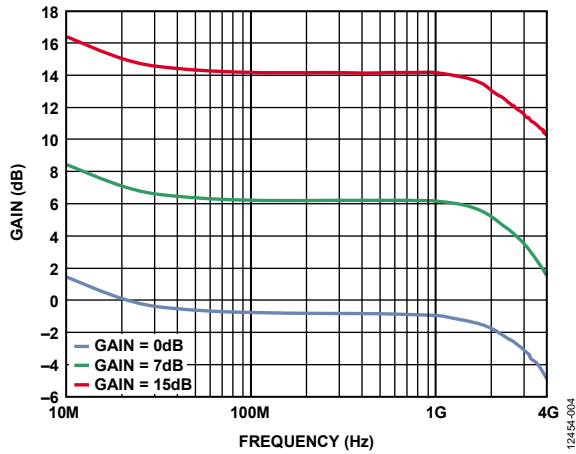
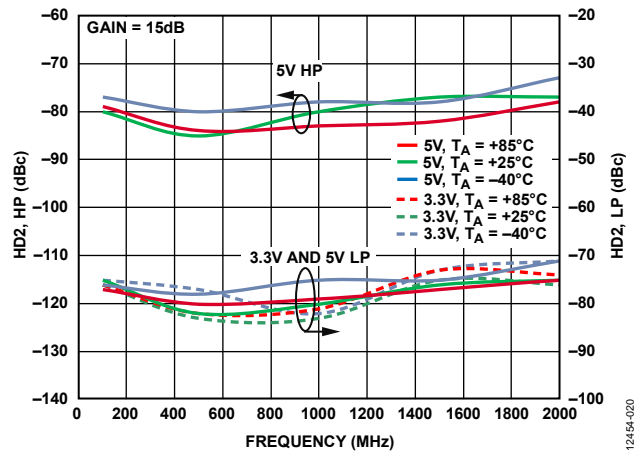
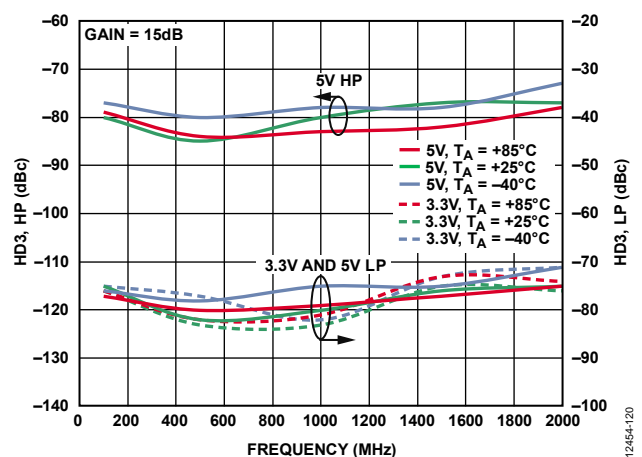
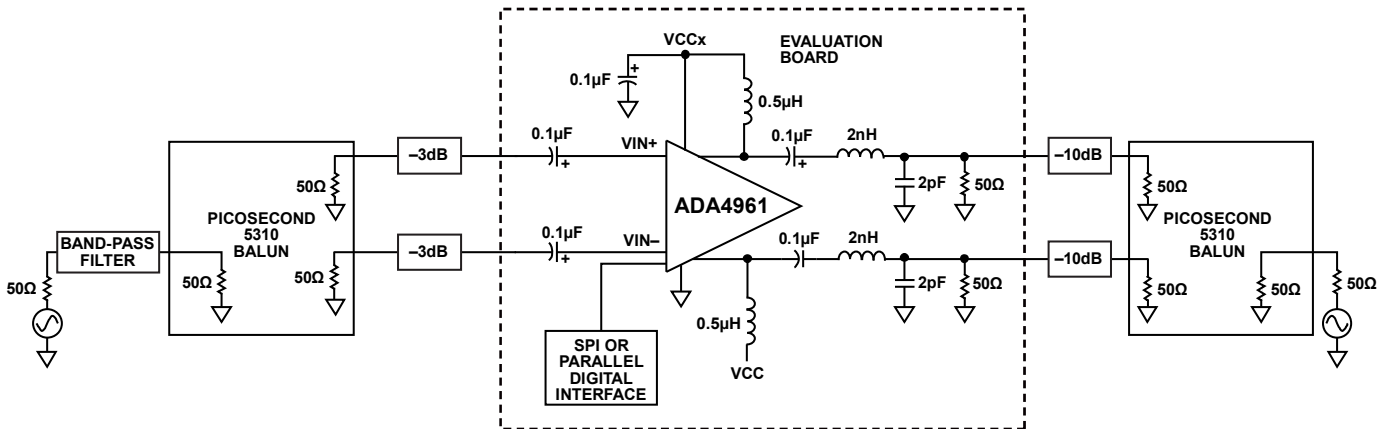

Figure 4. Gain vs. Frequency at 15 dB, 7 dB, and 0 dB Gain Settings, 5.0 V
Figure 20. HD2 vs. Frequency at Three Temperatures, +5.0 V, +3.3 V, with Low-Pass Filter
Figure 21. HD3 vs. Frequency at Three Temperatures, 5.0 V, 3.3 V, with Low-Pass Filter
Figure 37. Test Circuit for Single Tone Distortion
Figure 37 is used in part of the ac characterization of the ADA4961. The picosecond 5310 balun provides the differential input signal and the 100  $\Omega$  differential match to the device. The 3 dB pads make the picosecond balun 50  $\Omega$  impedance less reactive on one side, which balances the differential phase accuracy. On the outputs, the 2 nH and 2 pF create a two-pole low-pass filter, along with the two 50  $\Omega$  resistors in parallel with the pads and output picosecond balun. This filter creates the 50  $\Omega$  differential load.
The output pads make the load more balanced. This is essential for good HD2 performance. This filter technique also creates a lighter load (slight peaking) for the device at higher frequencies, which improves the IMD3 performance. Though the filter bandwidth (BW) computes to 3.3 GHz, the parasitic C (not shown in Figure 37) across the 2 nH filter inductors reduces the 3 dB BW to about 2 GHz (see Figure 4). The filter, beyond reducing integrated output noise, also reduces the higher frequency second and third harmonics above 1 GHz and 700 MHz, respectively (see Figure 20 and Figure 21).